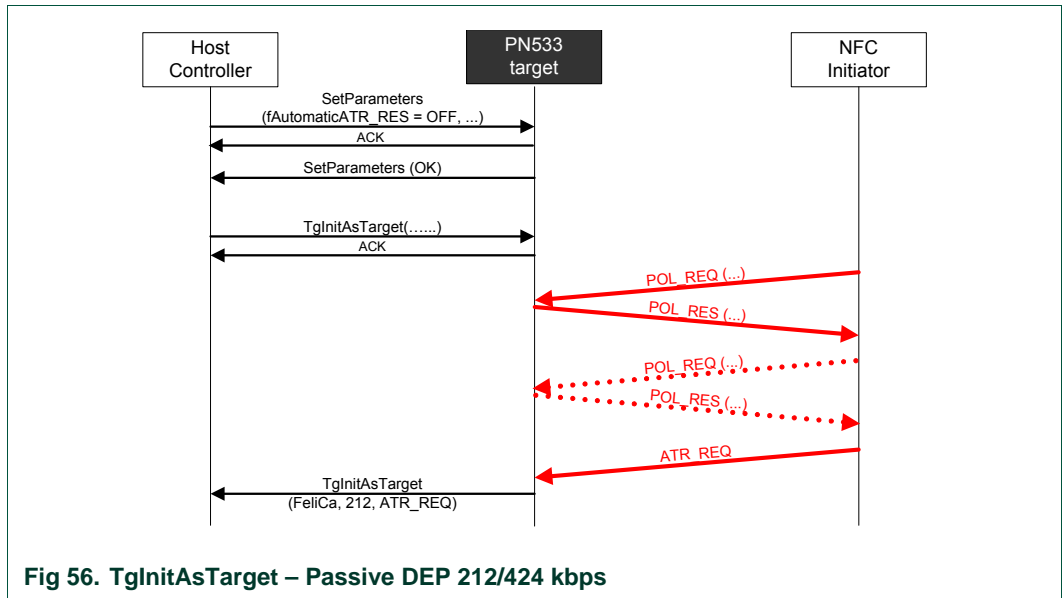
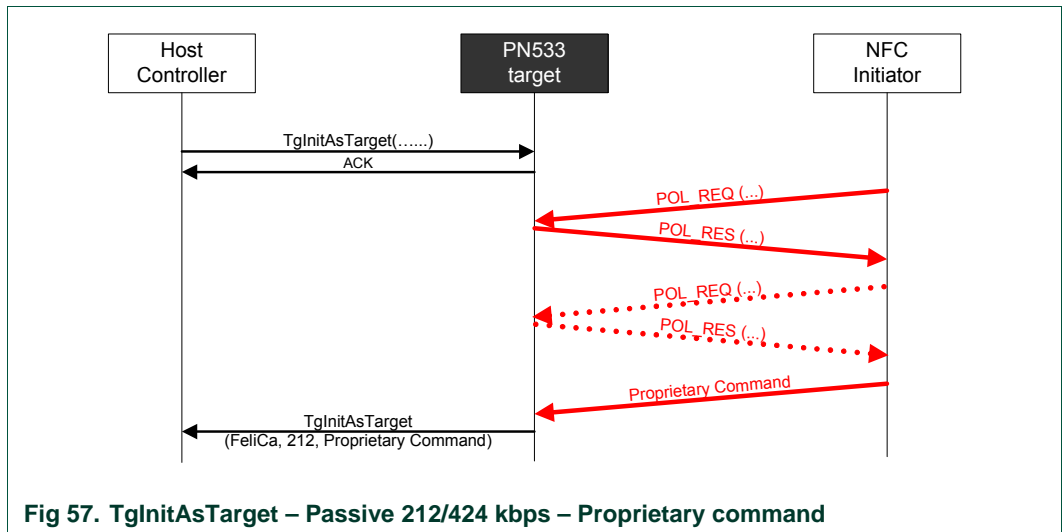

Fig 56. TgInitAsTarget – Passive DEP 212/424 kbps
Fig 57. TgInitAsTarget – Passive 212/424 kbps – Proprietary command
- This command may be an *ATR\_REQ* (Fig 56) or a proprietary command (Fig 57). In case of the reception of an *ATR\_REQ*, the *NFCID3i* **must** be the specified *NFCID2t* with 0x00 padding (last two bytes):
- If yes, the PN533 sends automatically the *ATR\_RES* frame (except if the flag *fAutomaticATR\_RES* is not set (§8.2.8, p.66); this is the case in Fig 56).